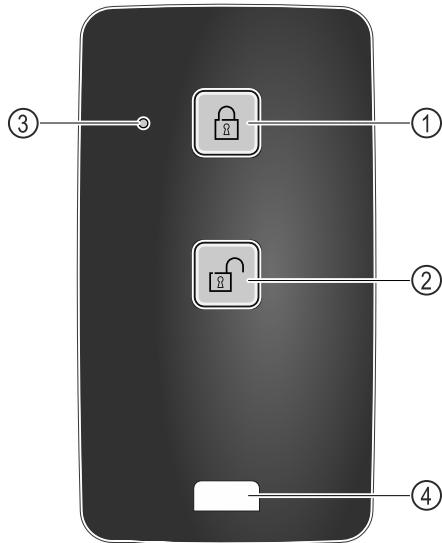

Fig. 219
- Press button Fig. 219 (1) on the remote control.
- Press button Fig. 219 (2) on the remote control.
- Status LED Fig. 219 (3) provides a visual acknowledgement when you press the button.
- Eyelet Fig. 219 (4) for attaching remote control, for example, to a key ring.